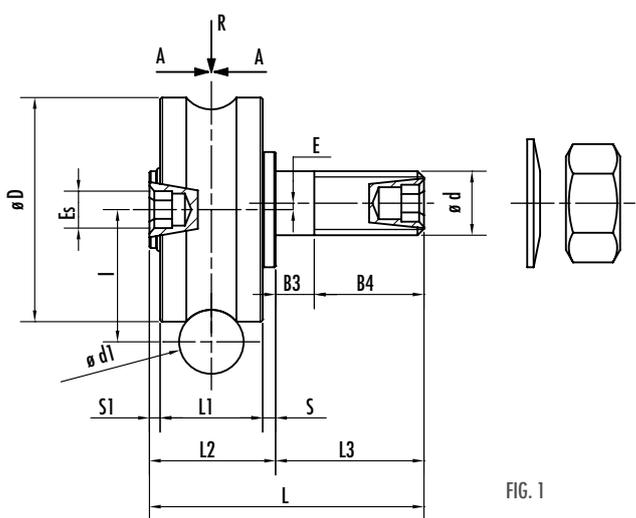

FIG. 1
**ROTELLE AD ARCO - WHEELS WITH ARC - ROULETTES AVEC PROFIL D'ARC FIG. 1**